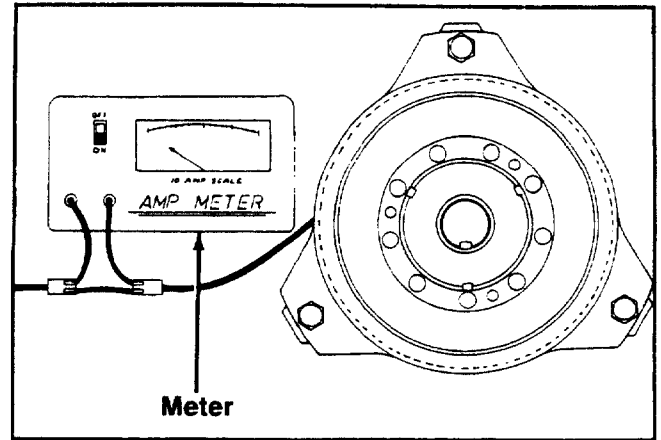

FIGURE 2.
5. Connect the other meter lead wire to a non-painted metal surface. See figure 2.
4. Connect one meter lead wire to the clutch wire. See figure 2.
5. Connect the other meter lead wire to the disconnected wire leading to the power source. See figure 2.